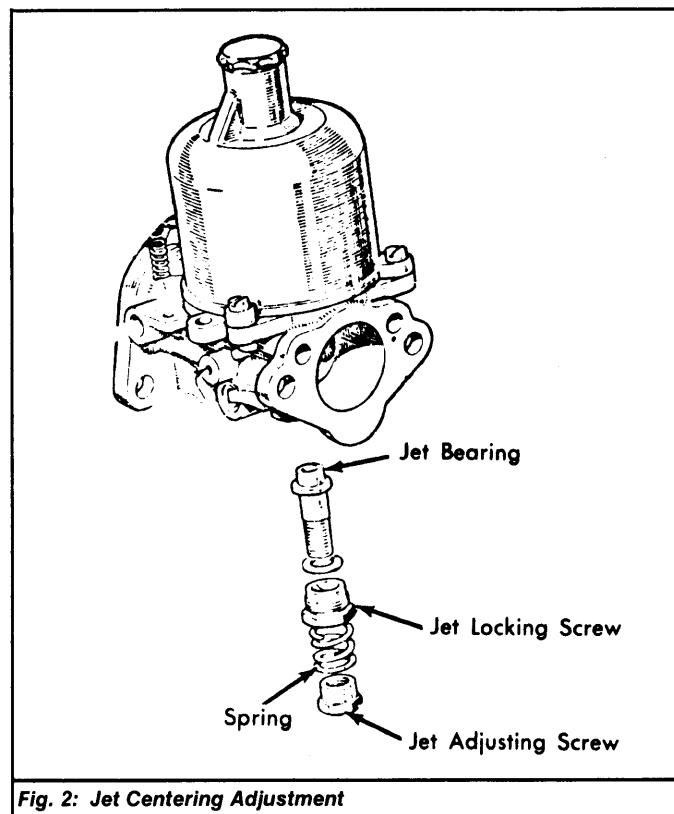

Fig. 2: Jet Centering Adjustment
- 4) Refit jet head and feed tube. Loosen jet locking nut until jet bearing is just free to rotate with finger pressure. See Fig. 2.